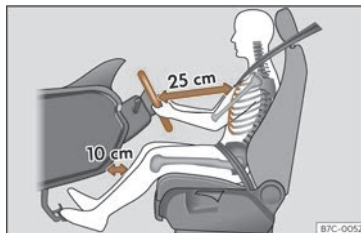

Fig. 17 The correct distance between the driver and the steering wheel must be at least 25 cm (10 inches).
- Adjust the steering wheel so that it is at a distance of at least 25 cm (10 inches) from the sternum >>> **Fig. 17** and can hold it with both hands on the sides, on the outside, with the arms slightly flexed.